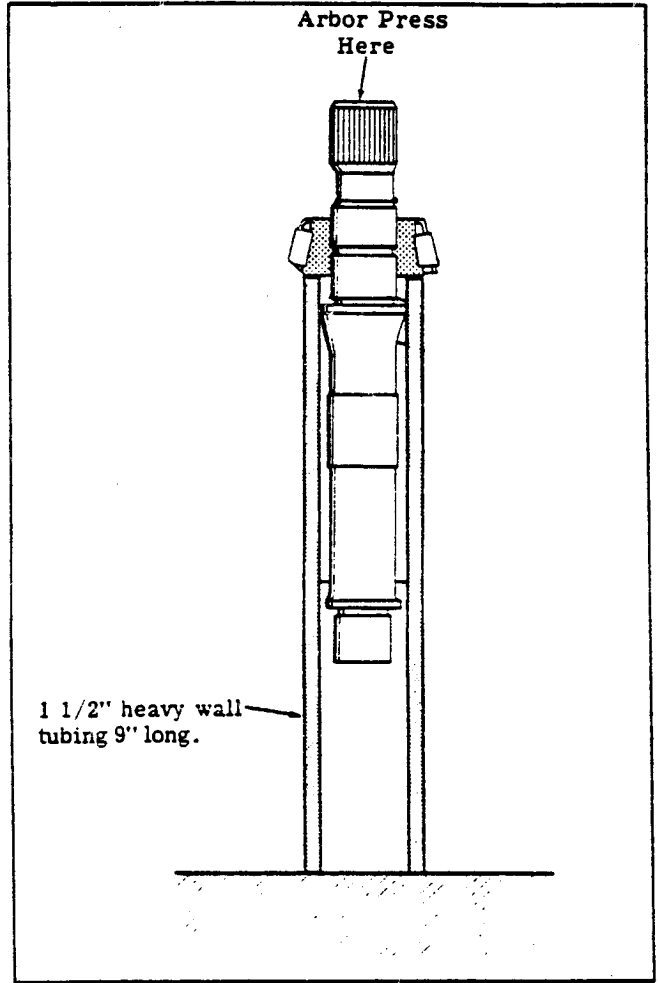

Figure 13. Front Bearing Removal
The following steps concerning removal of the front shaft bearing may not be required. Inspect shaft for broken splines, burrs, and wear in the area of shaft seal(s). Replace shaft if wear exceeds 0.005 T.I.R. Inspect the front bearing for scuffing, peeling or spalling of the rollers and/or roughness when turned in the race. **DO NOT** remove the bearing from the shaft if the bearing is functional. If the front shaft bearing or shaft is defective, perform the following steps in the order indicated. See Figure 5 for special removal tool dimensions and refer to Figure 13 during the shaft bearing removal.
1. Pull shaft (21) and bearing from housing (3).
- a. Install a nine inch piece of 1-1/2 inch heavy wall tubing over drive shaft (21). The end of the tubing will rest against the inner race of tapered roller bearing (22) and extend out beyond the end of the shaft.
- b. Place the shaft and bearing with tubing into an arbor press with drive spline up. See Figure 13.